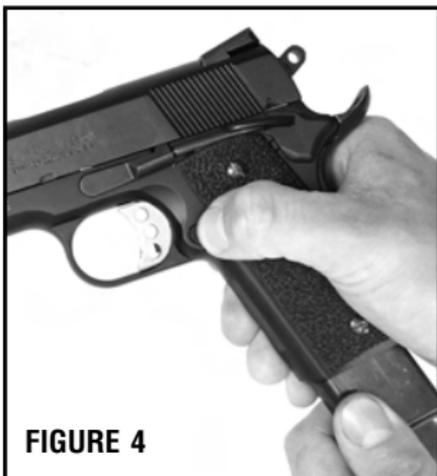
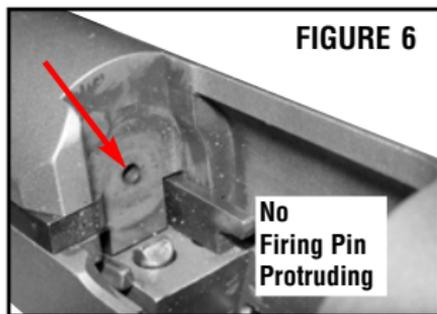

FIGURE 4
FIGURE 6
- Point the muzzle in a safe direction and depress the magazine release and remove the magazine (Fig. 4). Depress the safety lever into the fully down “fire” position (Figure 6).
- Examine the breech face (Fig. 6 & 7) to ensure that the firing pin is not protruding from the breech face.